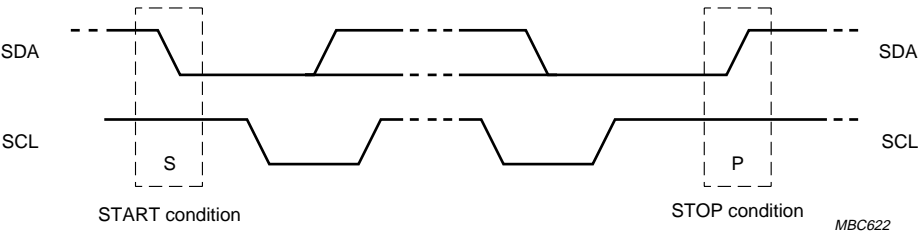

Fig.22 Definition of START and STOP conditions.
Both data and clock lines remain HIGH when the bus is not busy. A HIGH-to-LOW transition of the data line, while the clock is HIGH, is defined as the START condition (S). A LOW-to-HIGH transition of the data line, while the clock is HIGH, is defined as the STOP condition (P). The START and STOP conditions are illustrated in Fig.22.